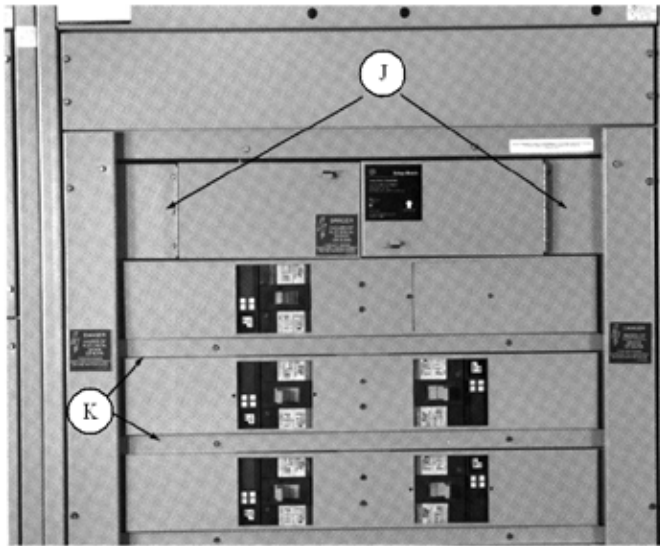

Figure 13. Voltage Module installed in the Spectra® Series Switchboard.
Filler plates (J) are included with the Voltage Module to assure a dead front and install the front plate (K) to the supports of the 1X filler plate as shown on Figure 13.